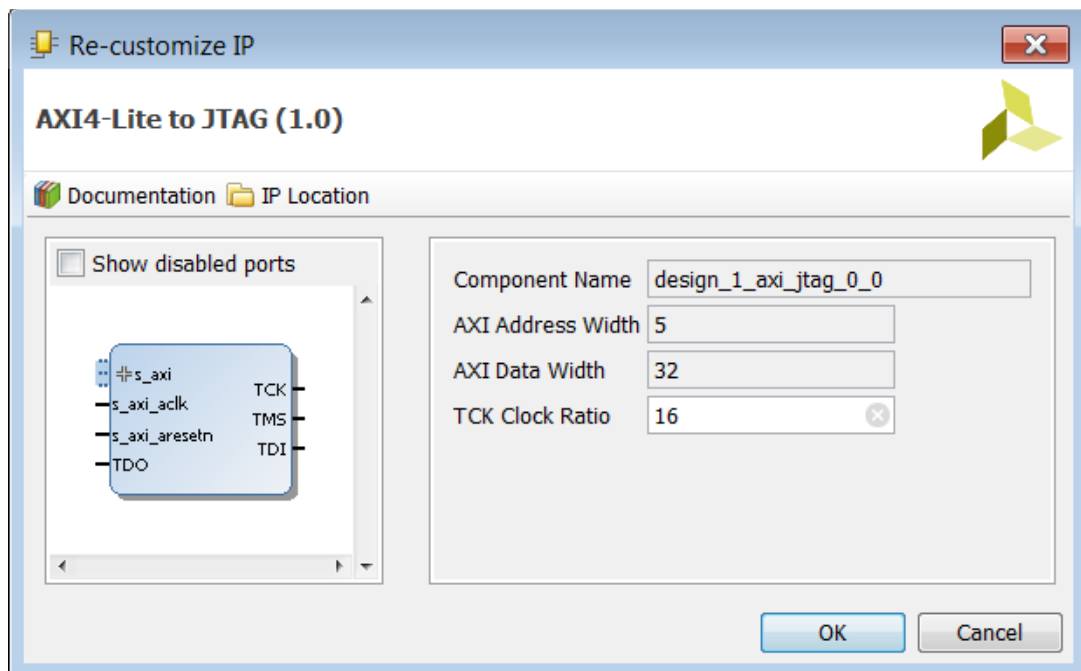

Figure 4: AXI4-Lite to JTAG Configurable Options
**IMPORTANT:** You are responsible for calculating the valid rate that TCK should operate at. This depends on the signal integrity of the JTAG signals. Xilinx recommends to start off at a slow toggle rate to verify functionality. *Figure 4* shows the **TCK Clock Ratio** option of the custom packaged IP.